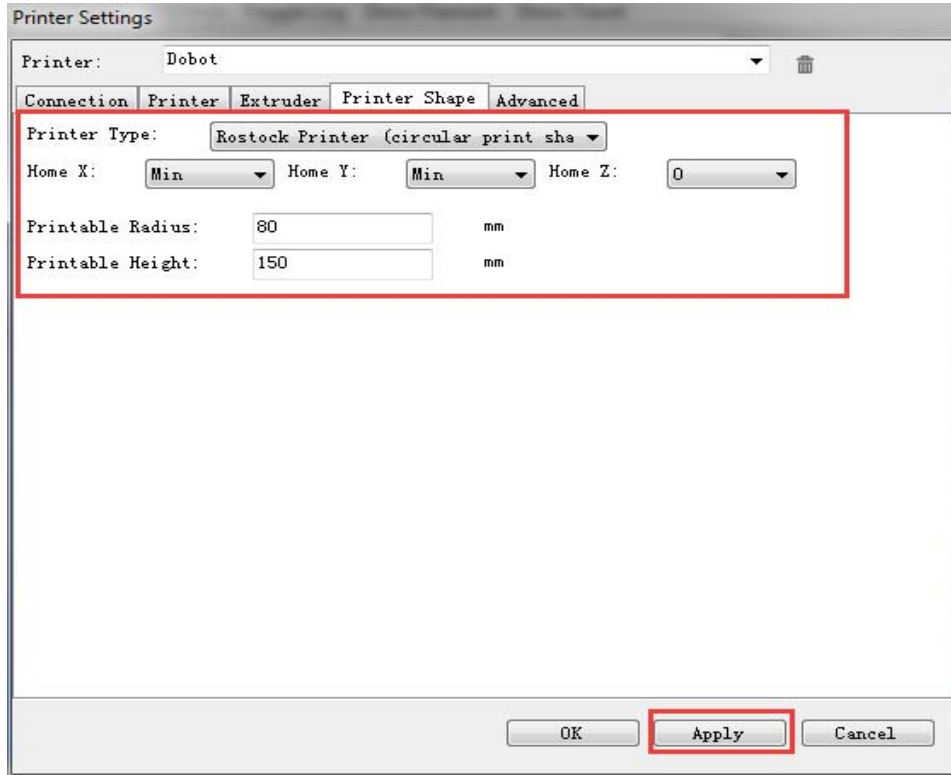

Figure 5.130 Printer shape settings
- Set the corresponding parameters on the **Printer Shape** tab as shown in the red box of Figure 5.130, the other parameters are set by default. Then, Click **Apply**.